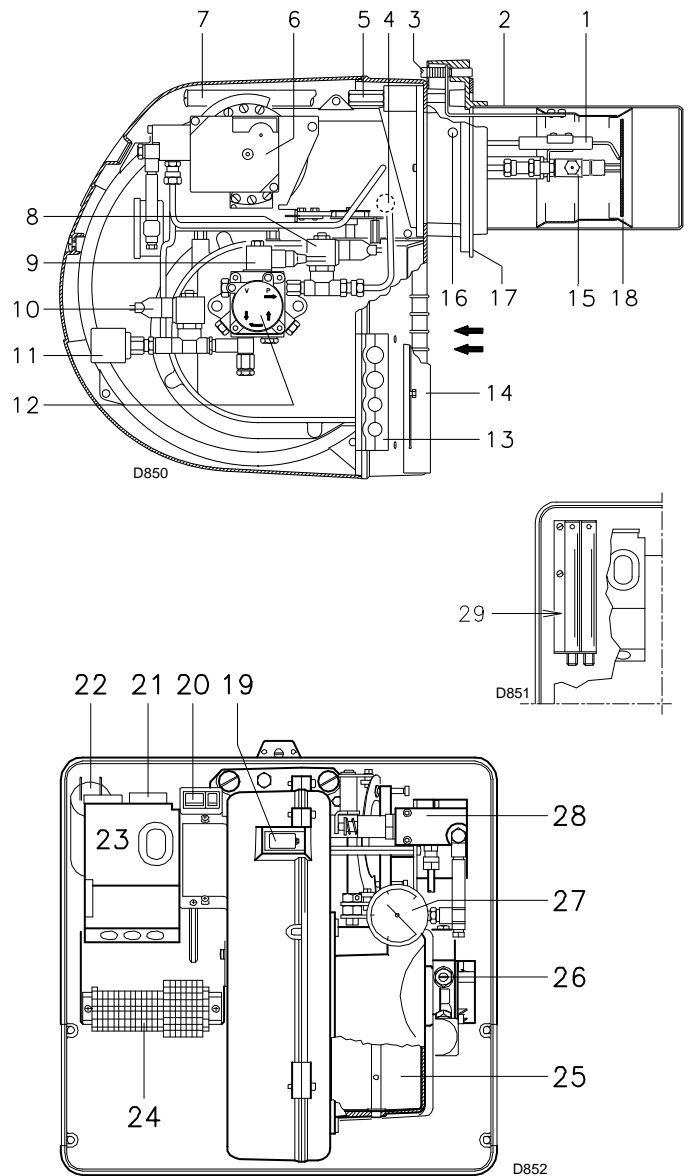

Fig. 4
if the control box 23)(Fig. 4) pushbutton lights up, it indicates that the burner is in lock-out. To reset, press the pushbutton.
release by pressing the pushbutton on thermal relay 21)(Fig. 4).
- 2 - Extensions 29)(Fig. 4) for slide bars 7)